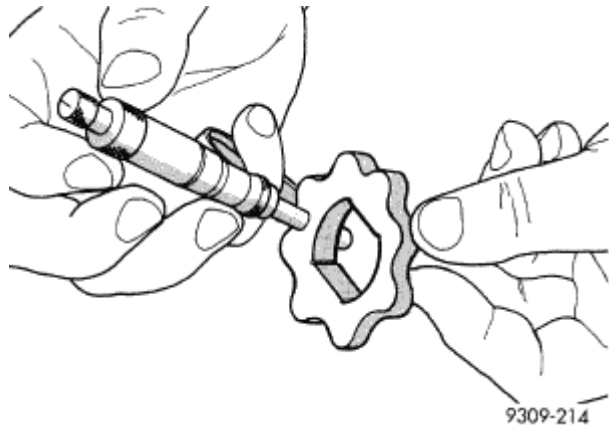

Fig. 189: Identifying Inner Rotor Thickness
4. If inner rotor thickness measures 7.64 mm (0.301 in.) or less, replace inner rotor. See **Fig. 189**.